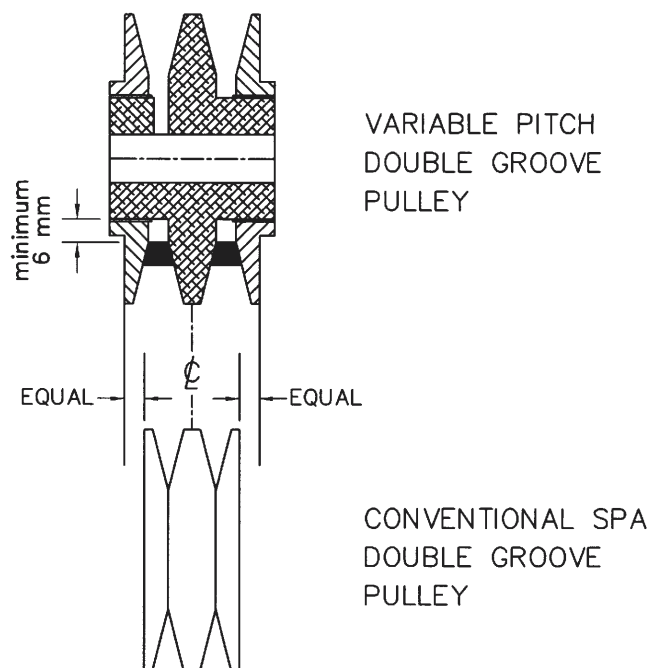

FIG.3
8. Realign the belts using the pulley faces as a guide, refer note and figure 3 below in troubleshooting guide